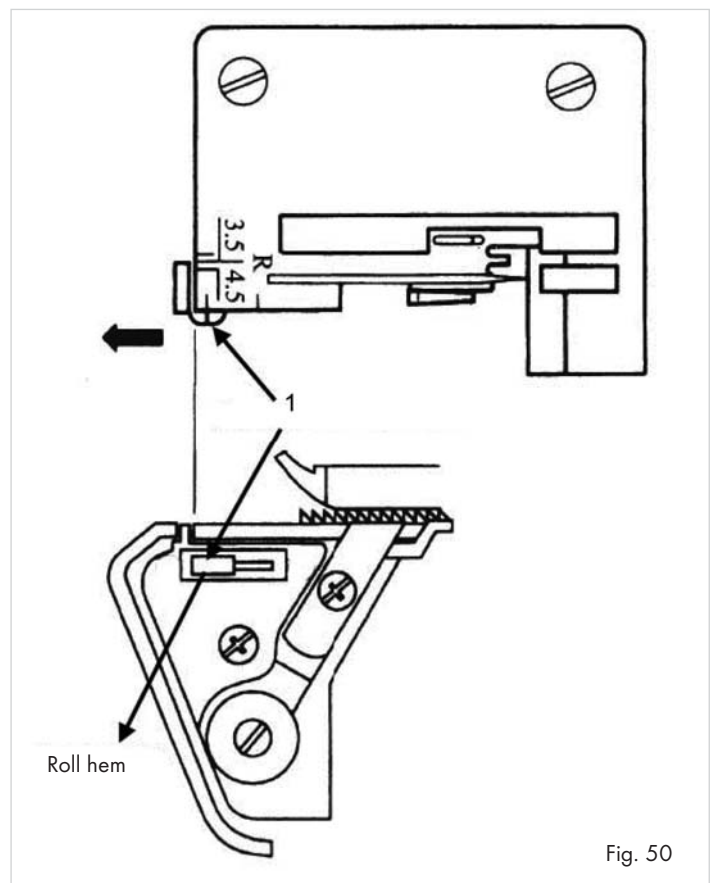

Fig. 50
- Open the front flap ⑩.
- Slide the seam width switch ②③ to "R", so that the seam width finger is pushed backward (1) (Fig. 50).
① **Note:**